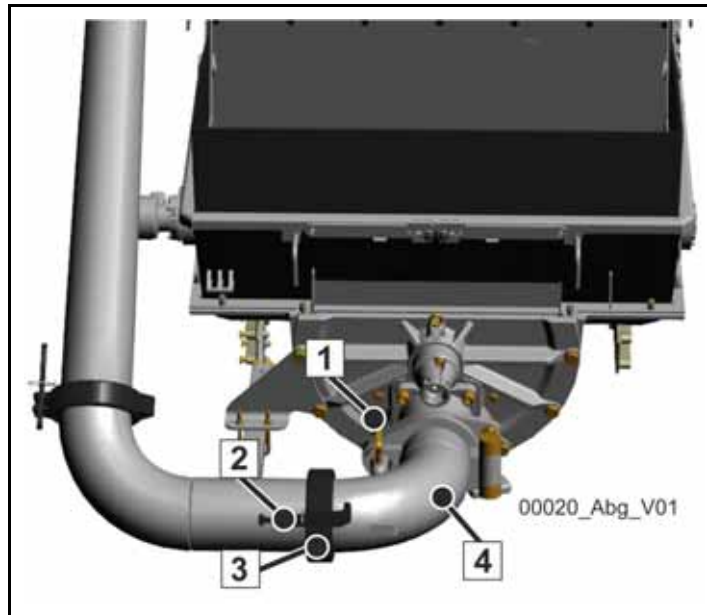

Fig. 313
- b) Remove the wedges (1+2) and the coupling (3) for truck-mounted concrete pumps.
- Swivel the outlet for the boom (4) to the side and secure with a wedge (1), (**Fig. 313**).